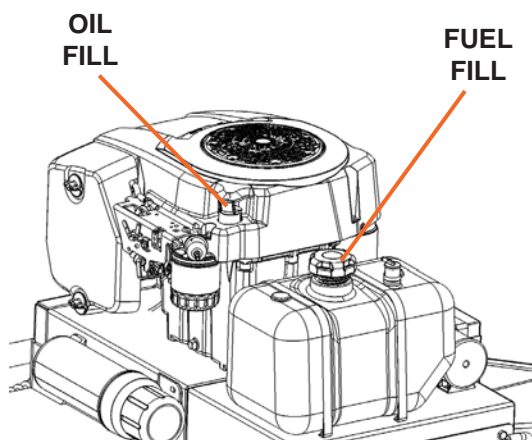

Figure 8
1. Place the machine on a level surface and initially add 1/2 of the SAE 30 high detergent oil into the oil fill (see Figure 8) and wait one (1) minute for the oil to settle.